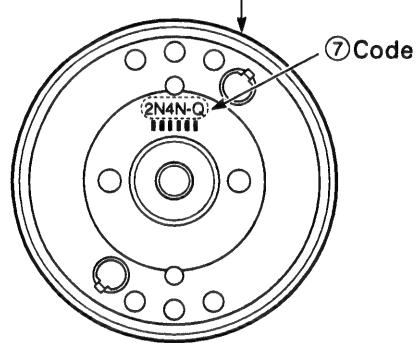

Fig.3-5-3
1. When carrying out assembly, the CH-1 head on the upper cylinder assembly (upper drum) ④ and the lower cylinder assembly (lower drum) ⑥ must be aligned. The CH-1 head on the upper cylinder assembly ④ bears a code ⑦ such as 2N4N-Q, 2N4P-QO, 2N4N-QL, 2N4P-QL, 2N4N-SQ, 2N4P-SQ...etc, as shown in Fig.3-5-3. The CH-1 on the lower cylinder assembly ⑥ has a round hole ⑧, as shown in Fig.3-5-4. Assemble the parts so that the round hole ⑧ is next to the code ⑦ on the upper cylinder assembly.
④Upper cylinder assembly